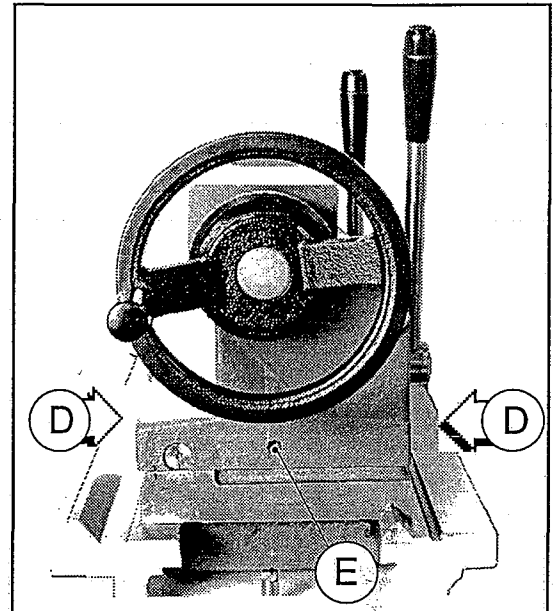

Fig.14
Set over adjustment is achieved by unclamping tailstock lever (A) and nut. Slacken rear location screw (E) one turn (Fig. 14). Adjust screws (D) at each side of base by slackening one and tightening the other to laterally move tailstock across the base.